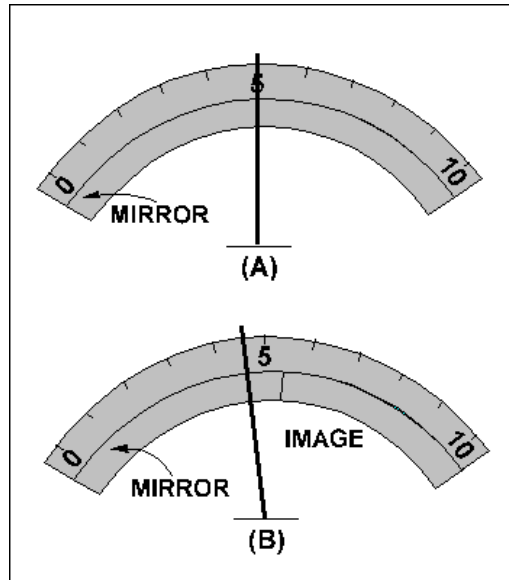

Figure 1-42.—A parallax error on a meter with a mirrored scale.
The mirror on the scale of a meter, shown in figure 1-39, helps get rid of parallax error. If there is any parallax, you will be able to see the image of the pointer in the mirror. If you are looking at the meter correctly (no parallax error) you will not be able to see the image of the pointer in the mirror because the image will be directly behind the pointer. Figure 1-42 shows how a mirror added to the meter in figure 1-41 shows parallax error. Figure 1-42(A) is a meter with an indication of 5 units. There is no parallax error in this reading and no image of the pointer is seen in the mirror. Figure 1-42(B) shows the same meter as viewed from the right. The parallax error is shown and the image of the pointer is shown in the mirror.